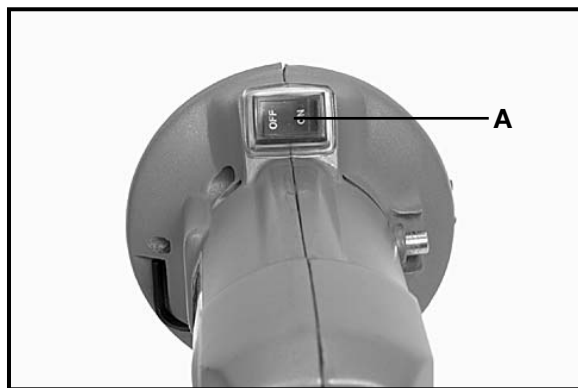

Fig. 1
The Cutout Tool is equipped with a “rocker” type switch (A) Fig. 1. One end of the switch button is labeled OFF, and the other end is labeled ON.